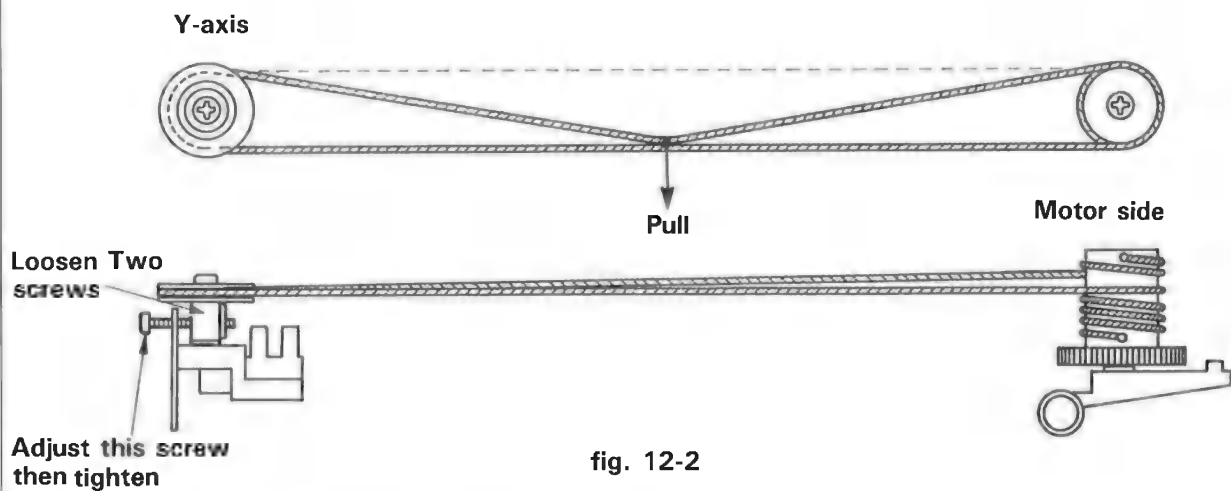

fig. 12-2
- 2). When pull the gauge horizontally and softly till either wires to touch the other, an adequate tension is about 400 grammes in case of DPX-3300, 800 grammes in case of DPX-2200. (see fig. 12-2)